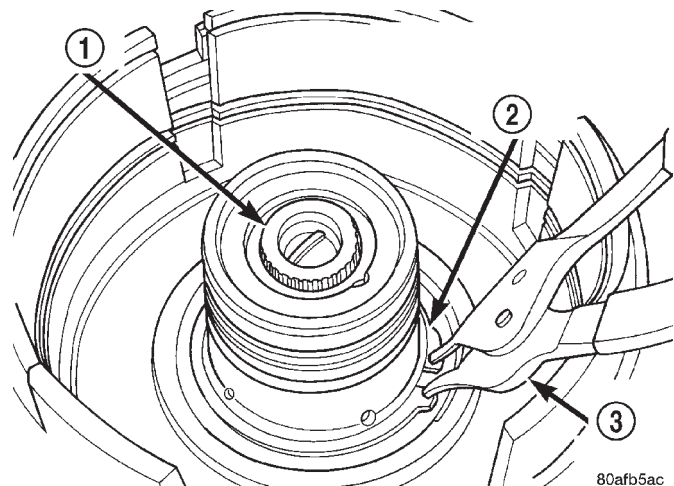

Fig. 260 Install Input Hub Tapered Snap Ring
- (6) Install input hub tapered snap ring (Fig. 260).